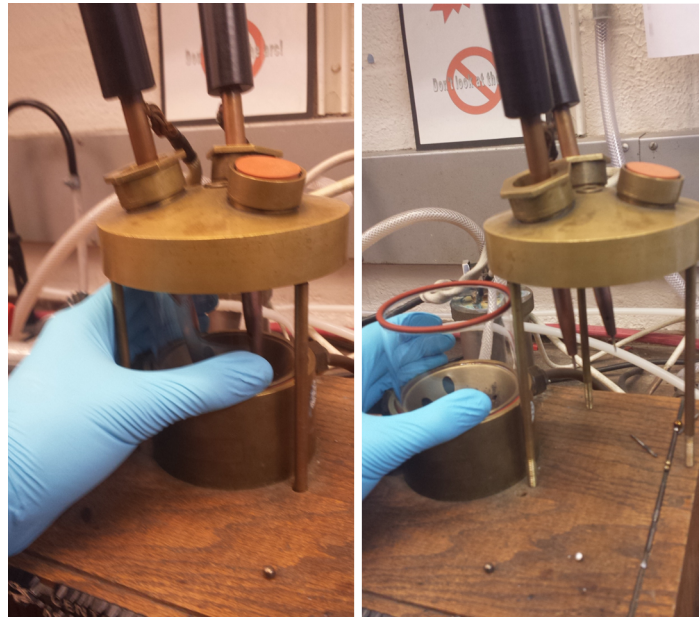

Figure 7: Removing the top from the arc furnace.
Step 3: Take the top off, hold the quartz window and lift off (Fig. 7). Be very careful not to knock the quartz window. Place the window to the side in a safe place.